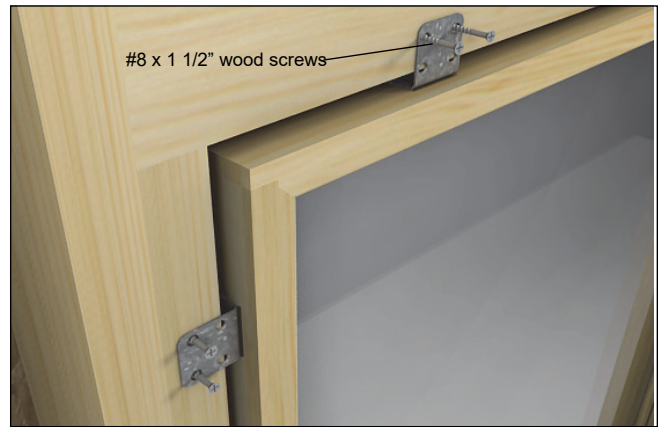

Figure 7
6. For non-wrap style brackets, skip to step 7. For **wrapping** style brackets, wrap the long leg of the bracket around the framing member and fasten with #8 x 1 1/2" wood screws. See figure 7.